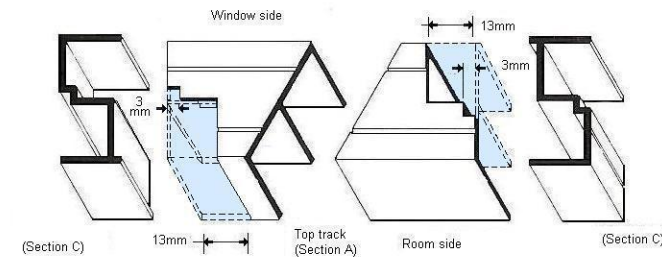

Figure 3
b) Cut out and discard a 13mm corner, including the middle leg of the channel, from the right hand end of the window side channel and from the left hand end of the room side channel (Figure 3). Note the track is fitted flat face upwards.
c) Further notch out a 3mm x 3mm corner at each end of Section A to accommodate the small step in each side track (Figures 3 and 4).